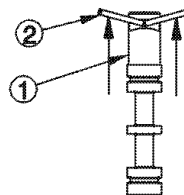

FIG. 2
- Apply pressure upward onto base of detent legs with thumb and index finger, as shown in Fig. 2.